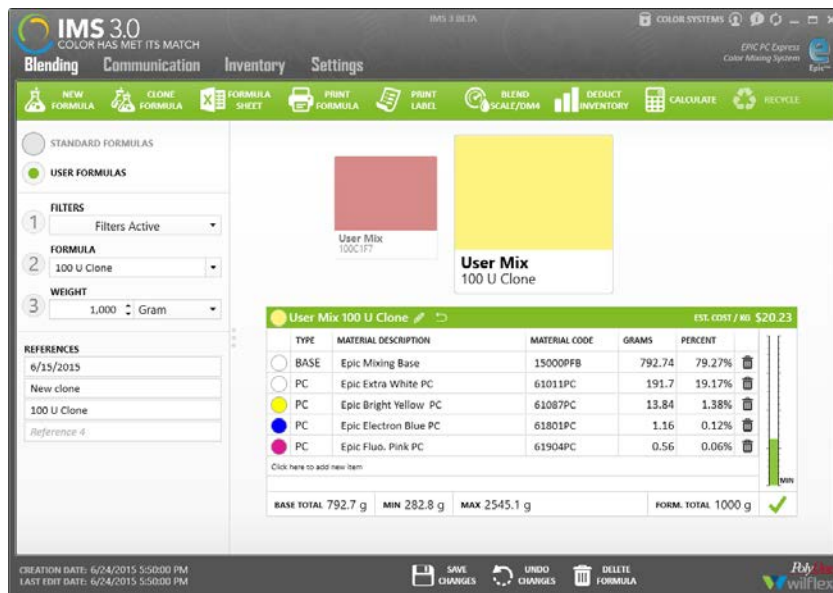

Figure 12 Editing the newly cloned formula
- Upon clicking the “Finish” button you will be directed to “User Formulas” with your cloned mix selected. From here you can add or remove ingredients and edit or delete your clone. (Figure 12)